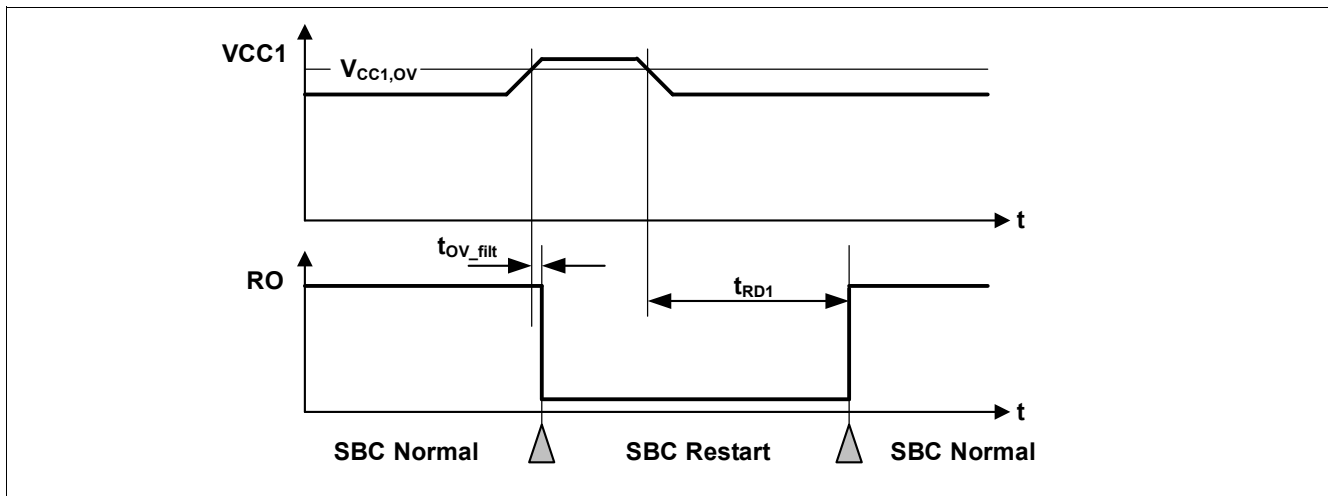

Figure 44 VCC1 Overvoltage Timing Diagram
- If the bit **VCC1\_OV\_RST** is set, SBC Restart Mode is entered. A reset event is generated. The SBC exits the SBC Restart Mode and SBC Normal Mode is resumed after the VCC1 over voltage is not present anymore (see also Figure 44).